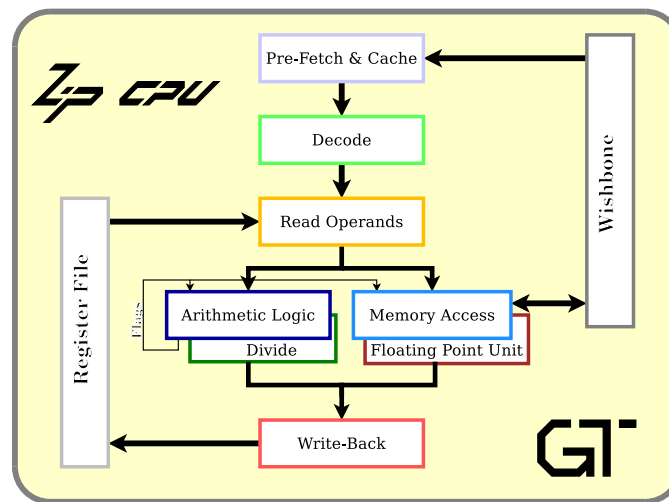

Figure 1.1: ZipCPU internal pipeline architecture
- A pipelined architecture, having stages for **Prefetch**, **Decode**, **Read-Operand**, a combined stage containing the **ALU**, **Memory**, **Divide**, and **Floating Point** units, and then the final **Write-back** stage. See Fig. 1.1 for a diagram of this structure.